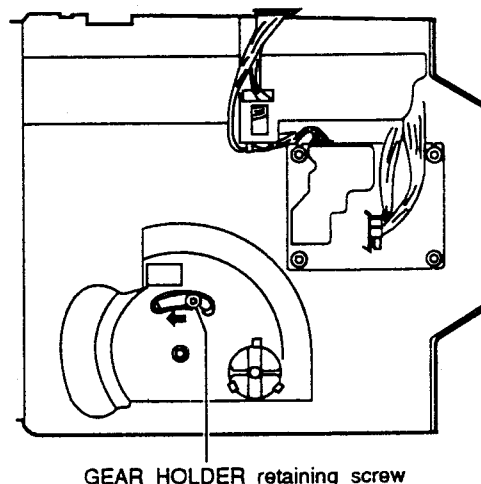

Fig. 3-8
- 3) If the TRAY BLOCK is at the "in " position, slide the GEAR HOLDER retaining screw in the direction of the arrow and pull out the TRAY BLOCK slowly (refer to Fig.3-8).